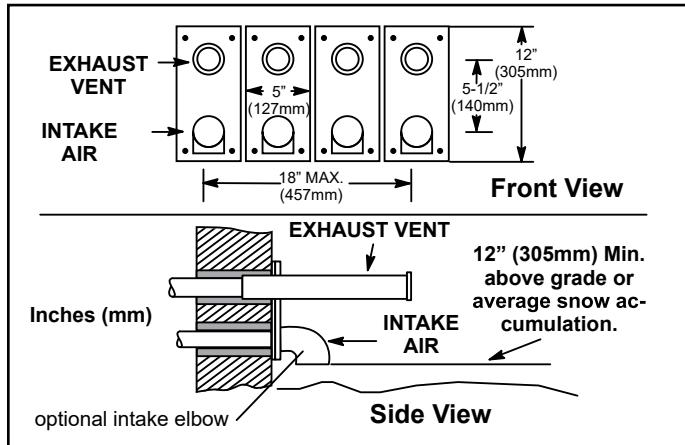

Figure 32. Optional Vent Termination for Multiple Unit Installation of Direct Vent Wall Termination
8. A multiple furnace installation may use a group of up to four terminations assembled together horizontally, as shown in Figure 32.